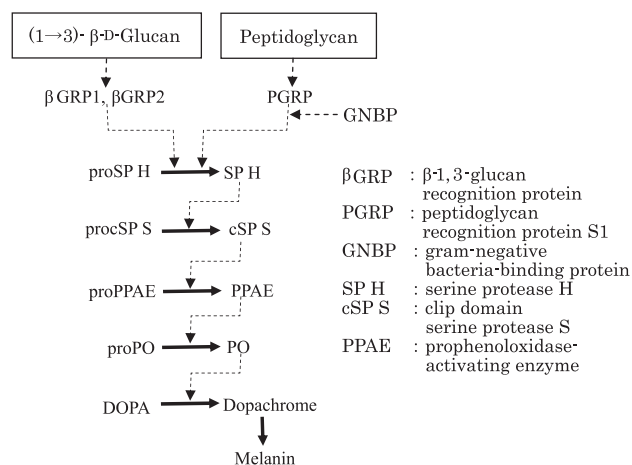

Fig 1. Activation mechanism of SLP system⁴⁾
The activation mechanism of SLP is considered as shown in Figure 1. Either PG or β -glucan binds to the respective recognition proteins termed PGRP or β GRP. The proPO cascade system is initiated by these reactions, and consequently, proPO is converted to phenoloxidase (PO)⁴⁾. The PO catalyzes oxidation of DOPA and is followed by the formation of melanin in the mixture. In the kinetic colorimetric assay with the Toxinometer, the amount of melanin pigment by SLP reaction is monitored as a change in the light transmission rate, and the reaction time until the light transmission rate reaches a preset threshold value is defined as activation time (Ta). SLP activating substances (PG and β -glucan) are quantified with Ta as an index.